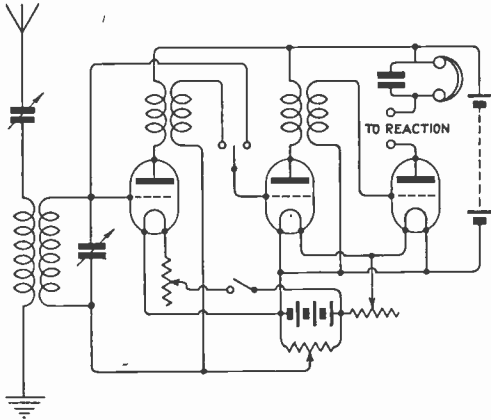

Fig. 2.
(1) Primary, 6" x 4" of No. 22, with a slider secondary 5" x 3" of No. 26, tapped at 1", 2" and 3". (2) See diagram Fig. 2. (3) No. (4) About 100 miles for good results.
(1) Generally gives increased strength of signals. (2) See Fig. 2, page 276, May 27th issue, and many similar circuits, but we should caution you that the satisfactory construction of such a set is extremely difficult without previous experience with simpler types, as there are numerous pitfalls which can only be found out by experience. (3) The increase of your aerial will not very greatly affect your wavelength except at minimum values. The wavelength can be reduced again by the addition of a series A.T.C. if necessary.